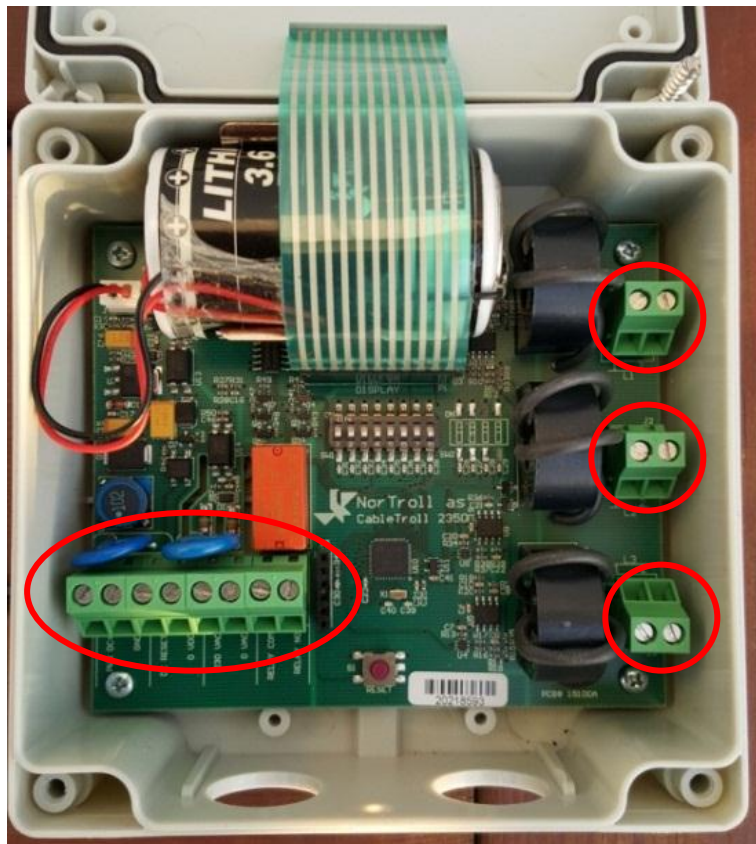

Figure 3.4.1-Internal Wiring FPI
- 2.5.3. Connect each of the phase CTs to its associated sensor block labelled L1, L2 and L3 respectively, ensuring consistent CT polarisation on terminations. See Figures 3.4.1 to 3.4.4.